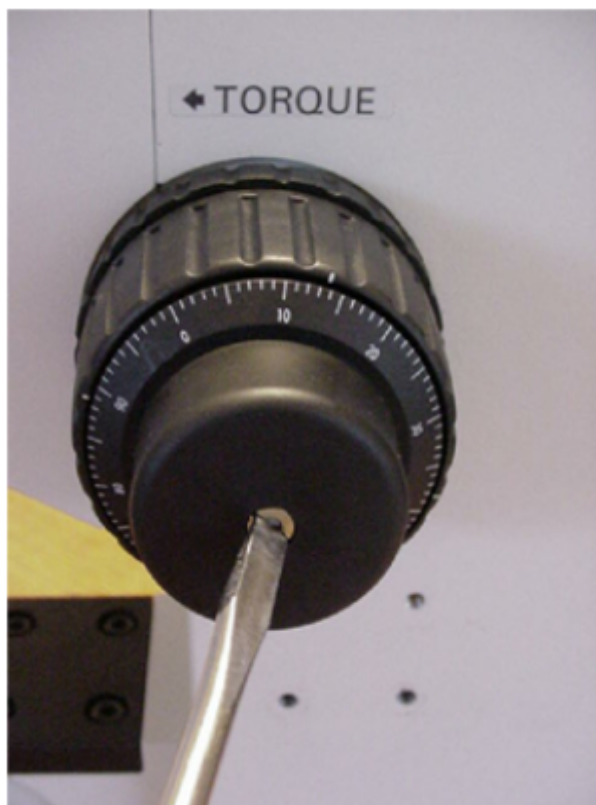

Figure 1: Use screwdriver to remove nut
b) Slide the microscope fine focus knob over the shaft extension and press it on all the way so that the plastic tabs on the knob mate with the slots on the ASI drive shaft. Install the small round nut in the end of the fine focus knob and tighten it with the medium slotted screwdriver. Slide the black rubber boot over the fine focus knob. Refer to figure 1 if necessary.